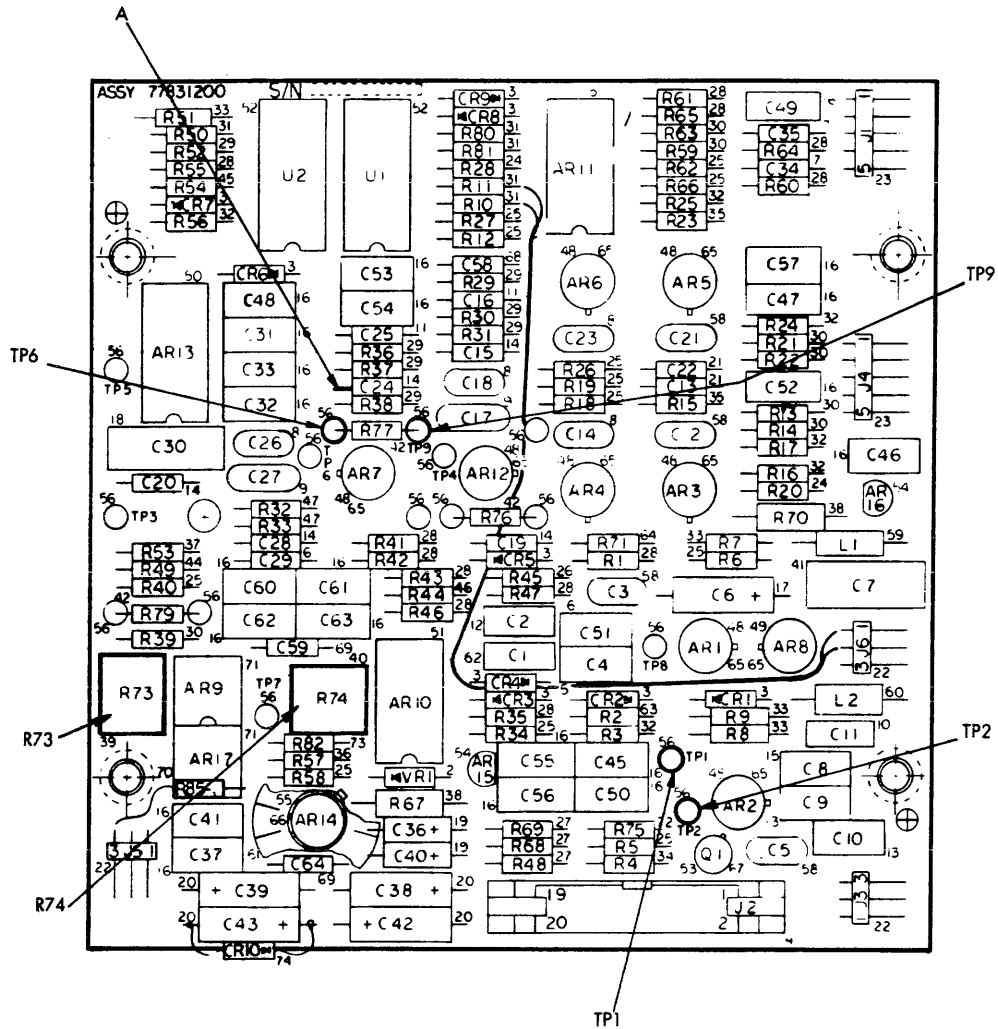

Figure 3-16. Servo Preamp Board Adjustment Location
4. Install a jumper from TP1 to -5V supply (TP9). See figure 3-16.
5. Connect oscilloscope to C24 (point A of figure 3-16). Set scope for internal trigger and auto sync.
24. Monitor RDYSRW- (same as on cylinder) on the disk interface line to the controller. This signal can be monitored at Pin B9 on the I/O board. This signal should be a positive pulse of 35 ± 1 millisecond (figure 3-23). Adjust velocity gain potentiometer R73 (figure 3-16) to get the desired seek time.